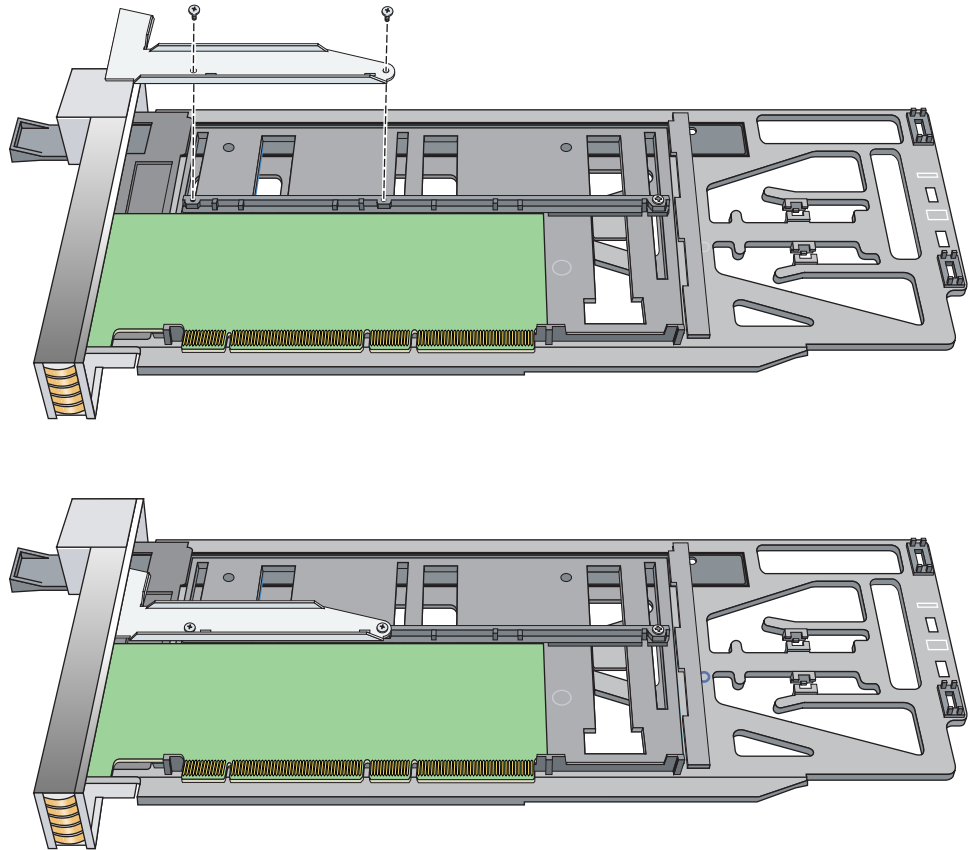

Figure 6-23 Installing the Bracket to Secure a Half-height PCI Card
- e. Place the PCI card bracket so that the screw holes of the bracket align with the empty screw holes of the carrier guide bar, as shown in Figure 6-23.